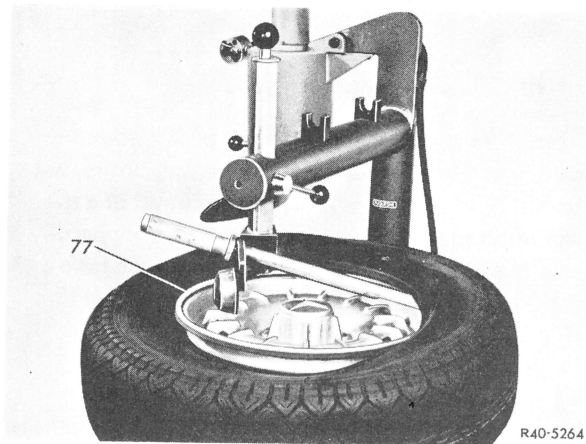

Fig. 4
3 When pulling the tire from the rim flange, make sure that the bead section (rubber coating and wire core) are not excessively stressed. Suitably rub rim flange with sponge soaked in a soap solution. **The pulling lever of the tire changing unit should have no sharp edges or other damage**, since this might damage the rubber coating of the bead (Fig. 4).
d) Prior to removing the tire, insert a suitable guard ring (77) to prevent that the pulling lever of the mounting unit makes direct contact with the rim flange (Fig. 4 and 11).
Note: When no guard ring is available, a suitable piece of metal sheeting approx. 50 mm wide should at least be placed between the pulling lever and the rim flange when lifting the tire bead (Fig. 4).